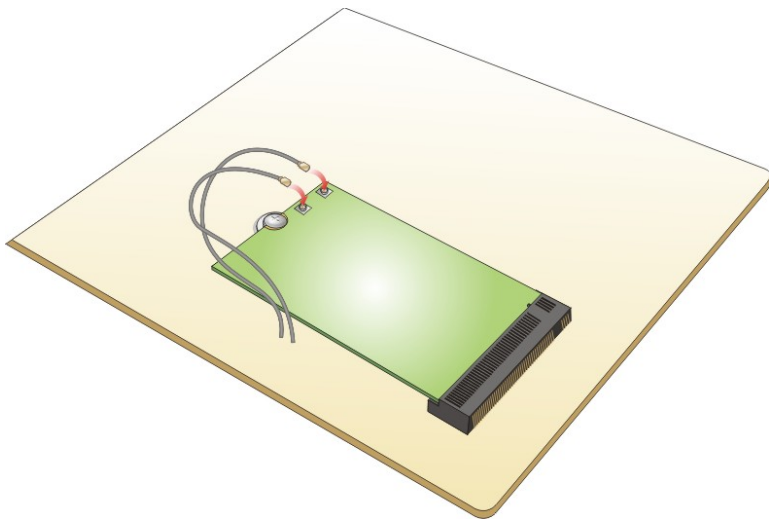

Figure 3-8: Connecting RF Cables
Step 3: Secure the WLAN module with the retention screw previously removed (Figure 3-8).
Step 4: Connect the two RF cables to the antenna connectors on the WLAN module (Figure 3-8).